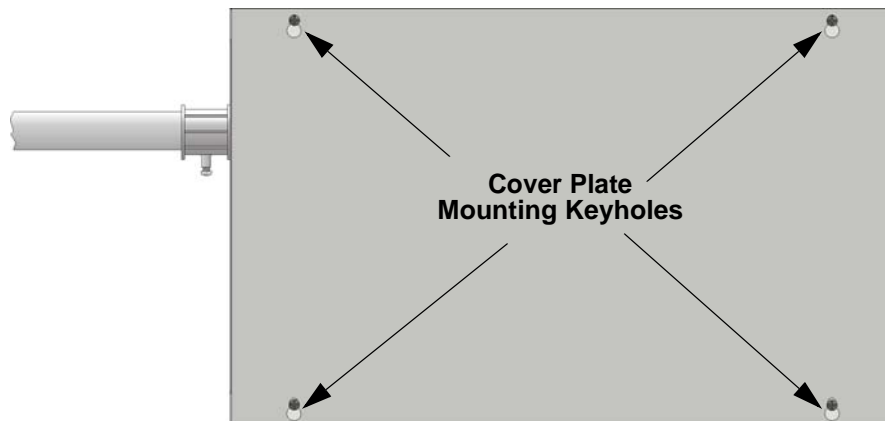

**Figure 4.6 Battery Connections in the RBB Cabinet**
3. Run extended battery cable from control panel cabinet through conduit to RBB cabinet. See Figure 4.6.
**NOTE:** Figure 4.6 is an example of how the wire connections can be routed. However, any other cabinet knock-outs (on either the main control panel or the RBB cabinet), that are not previously being used may be utilized to connect conduit between the two cabinets.
4. Connect battery leads to the backup battery terminals. See Figure 4.6. Observe the proper polarity to prevent damage to the batteries or the control panel.
5. Insert the RBB cover screws into the cover mounting holes (see Figure 4.6). Screw the cover screw  $\frac{3}{4}$  of the way into the cover mounting hole.